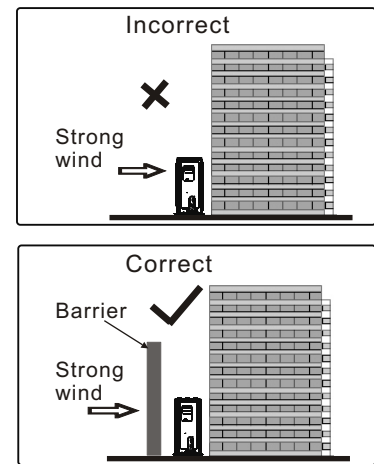

Fig.1
- If the installation location allows the unit to be exposed to strong winds, ensure that the unit has a barrier from the wind. See figure 1. This will assist with the proper operation of the fan by obstructing strong gusts of wind from entering the unit's cabinet.